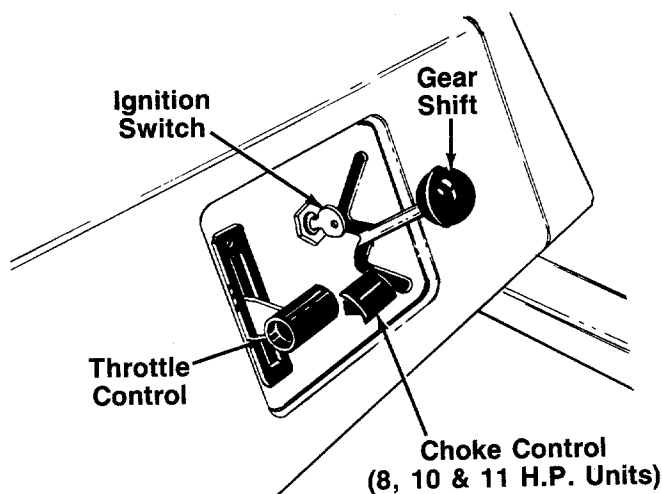

FIGURE 17.
The throttle control is used to regulate the engine speed. On 5 H.P. models, it is also used to choke the engine. The engine should be operated from 3/4 to full throttle when operating the cutting deck. See figure 17.
The choke control is located on the console and is operated manually. Details for the choke operation are covered in the separate engine manual packed with your unit. See figure 17.
**Electric Start Model**—The key must be turned to the START position to start the engine. After the engine is running, let the key return to the ON position. Turn the key to the OFF position to stop the engine. Remove the key when the rider is not in use. See figure 17.
The shift lever is located on the left hand side of the console and has three positions, FORWARD, NEUTRAL and REVERSE. See figure 17. The clutch-brake pedal must be depressed and the riding mower must not be moving when shifting gears. Do not force the shift lever. Release the clutch-brake pedal slightly to line up the shifting collar in the transmission. Then try to shift gears.
b. **Electric Start Units:** Turn the ignition key to the **START** position. As soon as the engine starts, let the key return to the **ON** position. See figure 17.